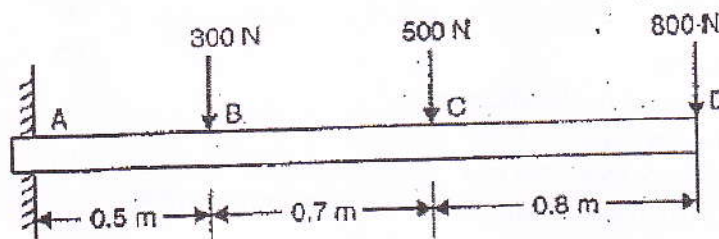

Fig.4
- b) A cantilever beam of 2 m carries three point loads as shown in fig.4 Draw S.F.D. and B.M.D for a cantilever beam.